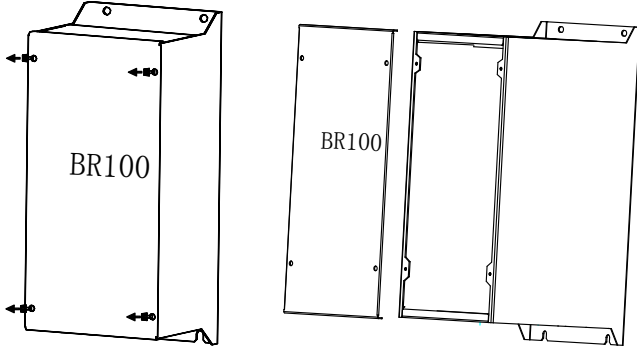

Figure 5-1 Front Cover Disassembly
- Unscrew the front cover, and disassemble it by following the arrow direction. See Figure 5-1.